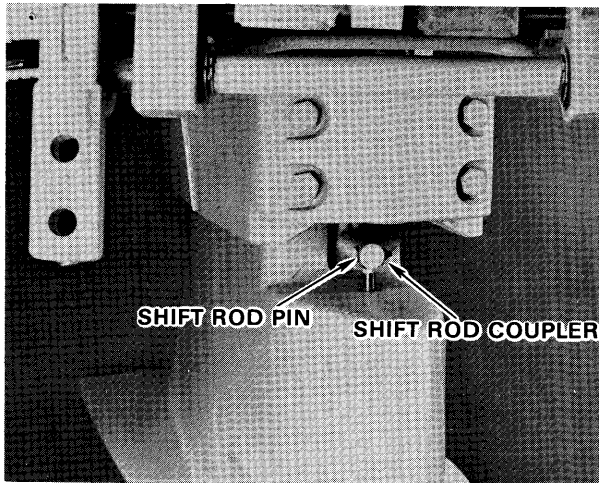

Figure 1—Location of Shift Rod Pin
- A. Remove cotter pin securing shift rod pin to coupler on shift rod - upper. Remove shift rod pin to free shift rod - lower from coupler. See figure 1.